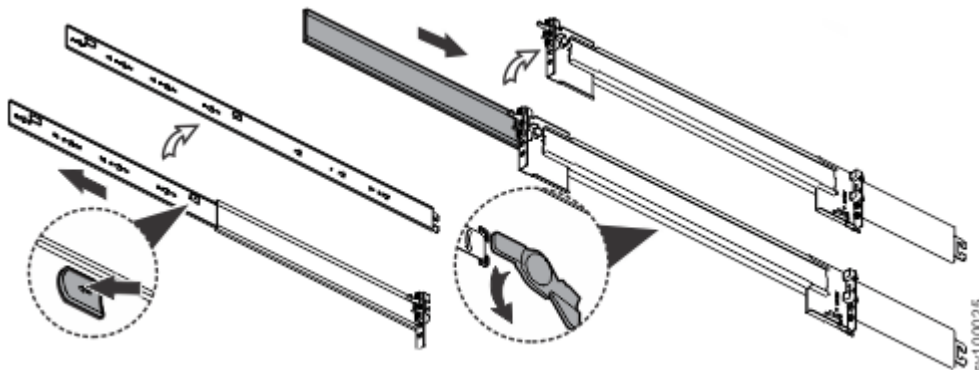

Figure 22. Detaching the inner rail section
3. Detach the inner section of one 3-part rail, as shown in Figure 22 on page 21.